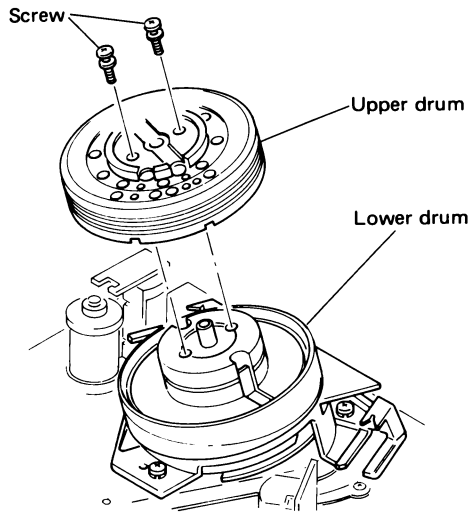

Fig. 2-5 Upper drum replacement
2.3.1 Upper Drum (See Figure 2-5.)